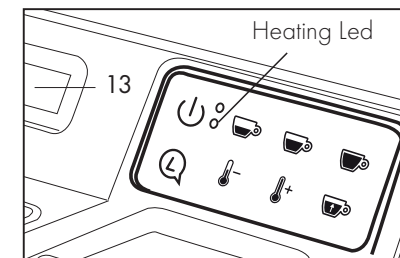

Fig. 5
- The blue heating LED flashes intermittently and the word "heating" appears on the Display (13); once the temperature has been reached, the blue LED lights up steadily, indicating that the machine is ready for use. **(Fig. 5)**